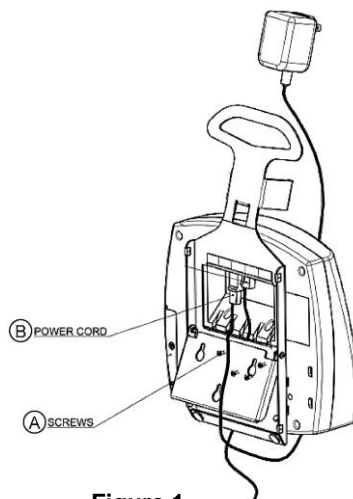

Figure 1
6. Connect the power adapter cord to the power port in the display, if the adapter will be used. The cord will be outside of the display, as shown in Figure 1. It is optional to run the cord through the channel in the back of the display, if you prefer. To accomplish this, remove the 4 screws (A) in the back with a Phillips screwdriver, remove the cover, run the power cord (B) through the channel, and then replace the cover, secure it with the 4 screws and tighten.